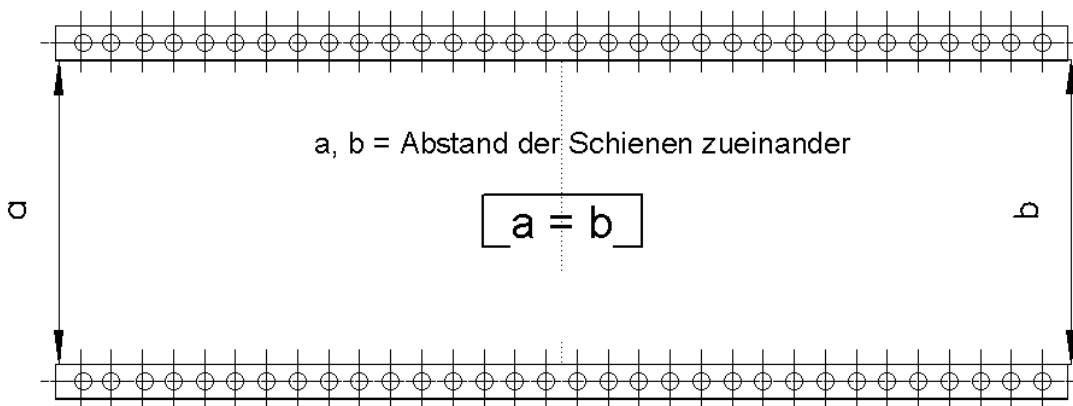

Figure 5.2 -Assembly drawing of perforated rails example
- Place the rails directly on the floor at a straight, safe and parallel distance (Fig. 5.2).